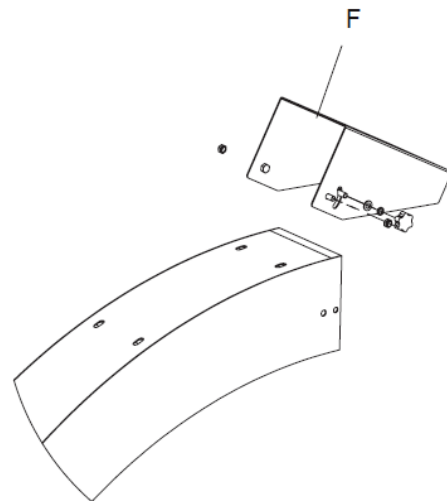

figure 3
Install the direction plate (F) to the chute with a screw nut and bolt. The knob can be used to adjust the discharge direction without a tool. **See figure 3.**